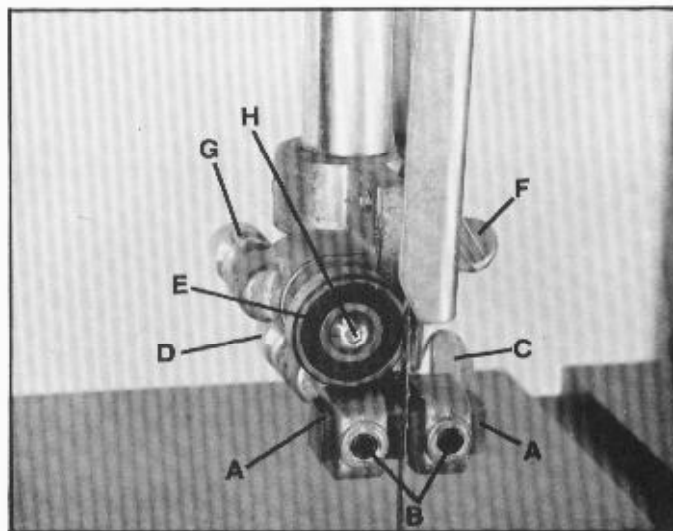

Fig. 20
1. The upper blade guides (A) Fig. 20, are held in place by means of the set screws (B). Loosen the set screws (B) to move the guides (A) as close as possible to the side of the blade, being careful not to pinch the blade. Then tighten the screws (B).
2. The guides (A) Fig. 20, should then be adjusted so that the front edge of the guides are just behind the "gullets" of the saw teeth. The complete guide block bracket can be moved in or out by loosening thumb screw (C) and turning knurled knob (D) Fig. 20. When guides (A) are set properly, tighten thumb screw (C).
3. The upper blade support bearing (E) Fig. 20, prevents the blade from being pushed too far to the back which could damage the set in the saw teeth. The support bearing (E) should be set $1/64$ " behind the blade by loosening thumb screw (F) and turning knurled knob (G) to move the support bearing (E) in or out.
4. The blade support bearing (E) should also be adjusted so the back edge of the blade overlaps the outside diameter of the ball bearing by about $1/16$ ". The bearing (E) is set on an eccentric and to change position remove screw (H) and bearing (E) Fig. 20. Loosen thumb screw (F), back out screw (G) and reposition shaft that bearing (E) is attached to.